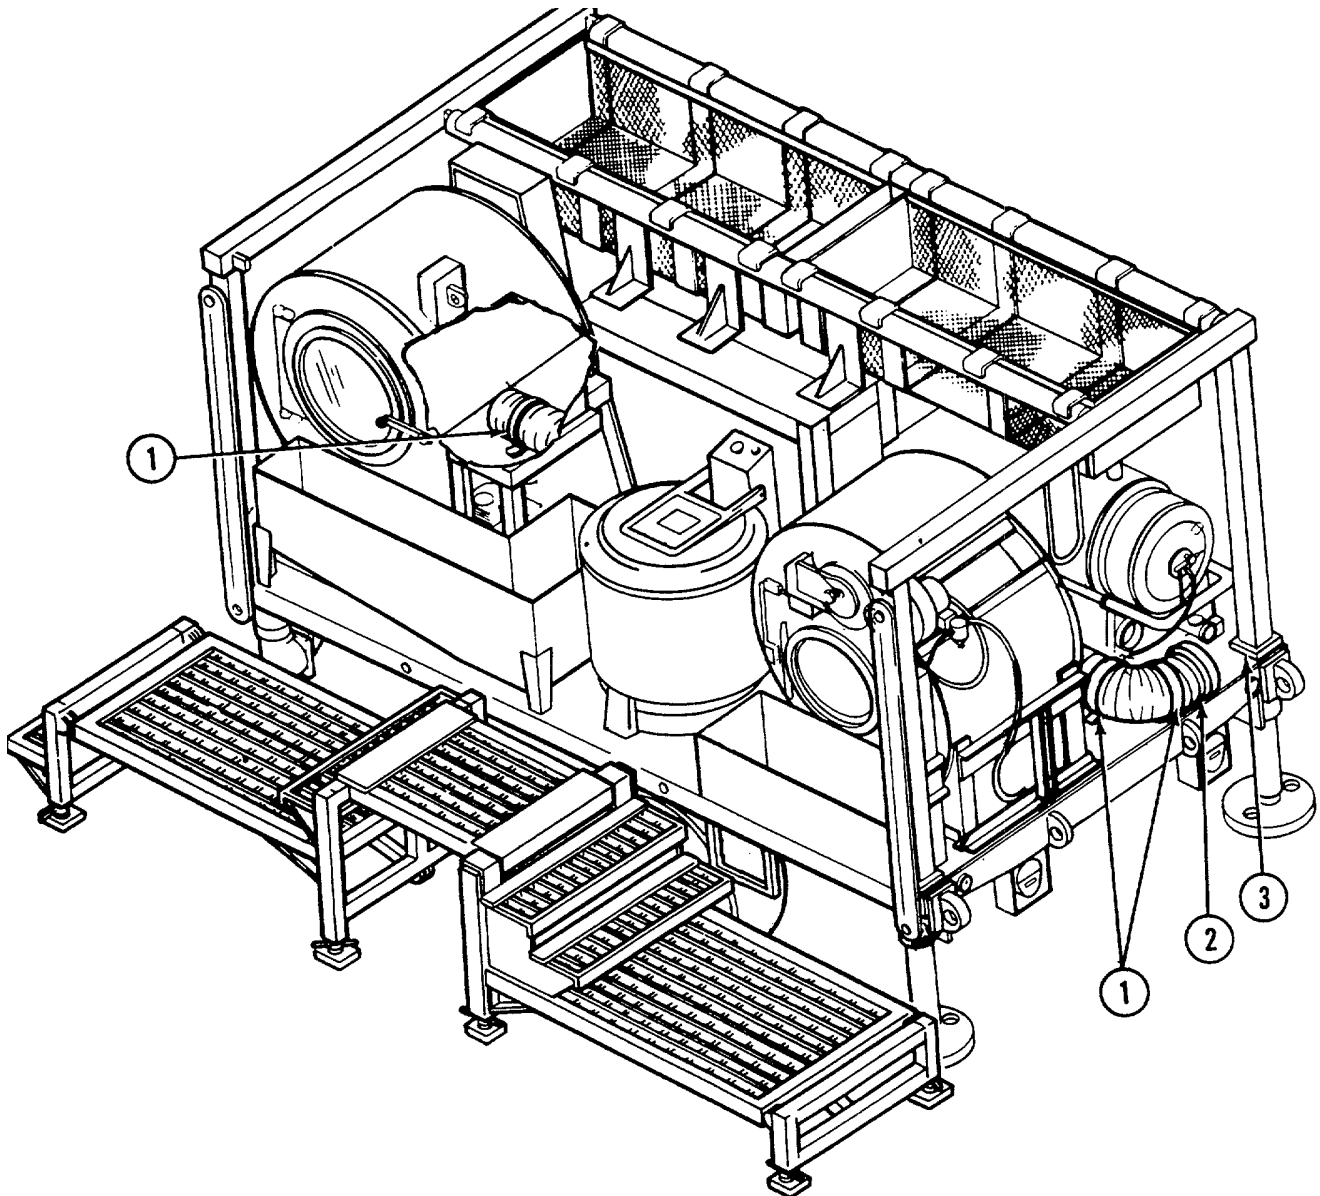

FIGURE 2-16. Exhaust duct removal from trailer.
- (1) Unhook three straps (1, FIG. 2-16) and remove combustion exhaust ducts
- (2) from trailer assembly (3).